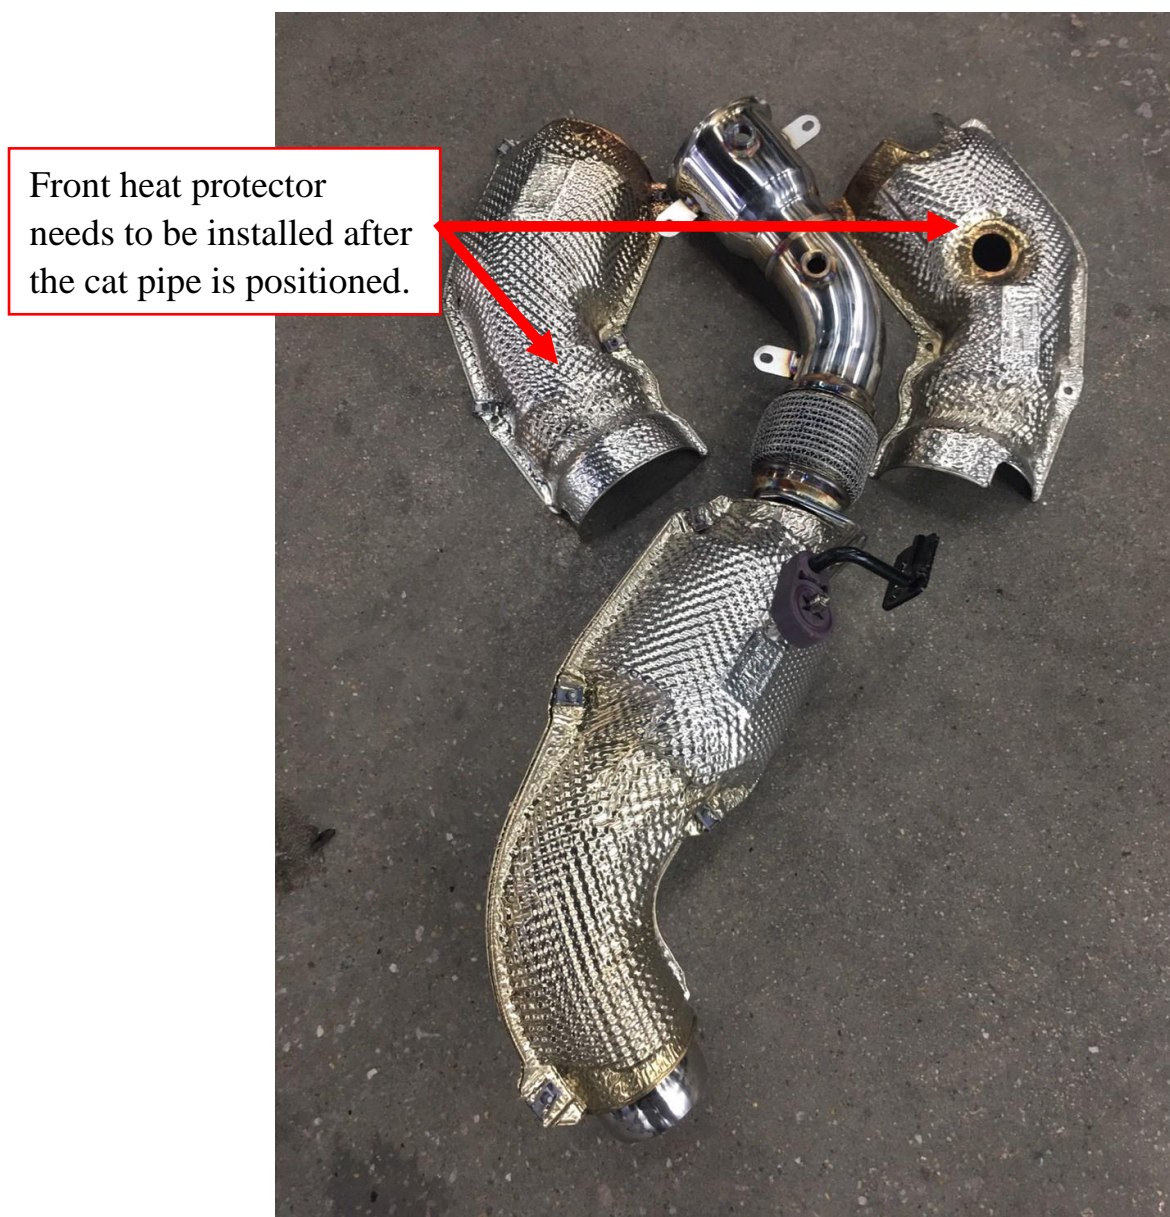

Fig. 11
1. Install the cat pipe by the reverse order of disassembly, the rear part of the heat protector must be installed to the iPE cat pipe and the front part of the heat protector will be installed after the cat pipe is positioned. (Fig 11)